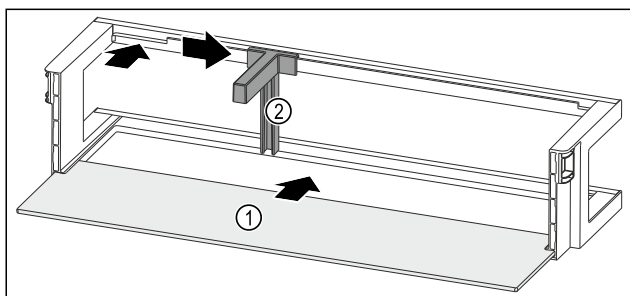

Fig. 59 Door rack with shelf
- Push the shelf Fig. 59 (1) into the side recesses.
- Insert the bottle holder Fig. 59 (2) in the recess.
- Push the bottle holder Fig. 59 (2) to the desired position to the side.